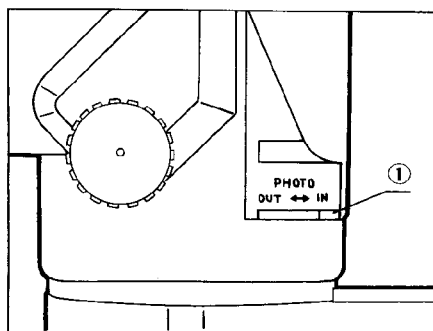

Fig. 11
- (1) For binocular tube observation, slide the light path selector lever ① to the OUT position until it stops. (Fig. 11)
- (2) To select the photo or video light path, slide the light path selector lever ① to the IN position. (Fig. 11)